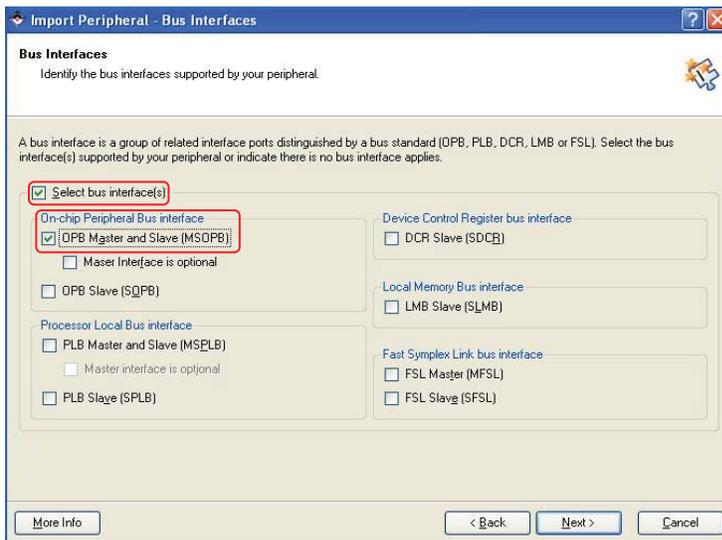

Figure 25: Selecting the OPB as a Bus Interface
- In the Bus Interface window, make the selections as shown in Figure 25. Because this is an OPB slave core with a DMA master IP, specify the bus interfaces to be OPB Master and Slave (MSOPB).